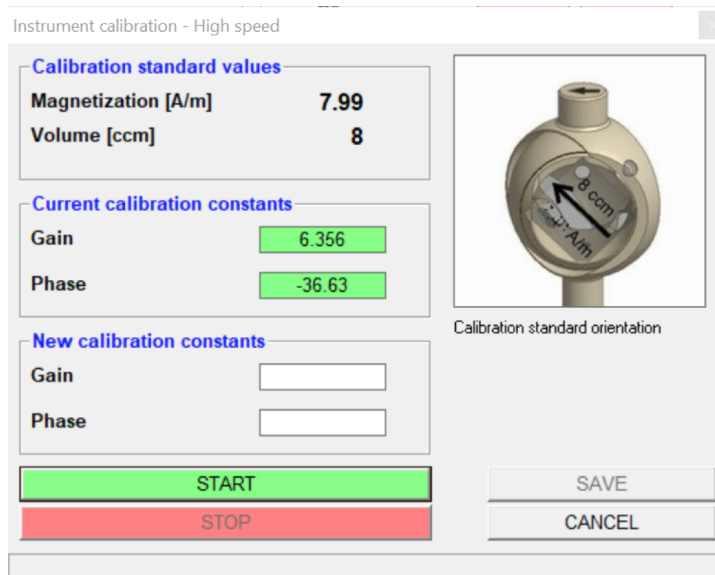

Figure 5: Calibration dialogue box.
4. Open the calibration dialog box by selecting **Execute > Calibration** (Figure 5).